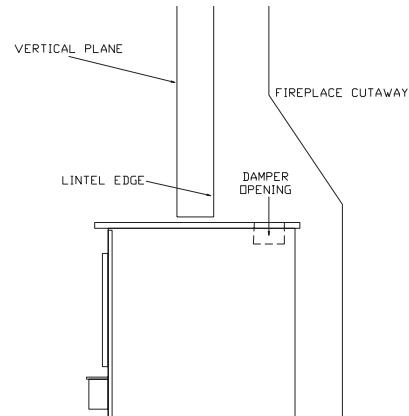

FIGURE 8 POSITIONING
When positioning heater, following conditions **MUST** be met! (See Figure 8).
1. The front of damper opening must be positioned **BEHIND** rear edge of lintel to ensure proper draft. (See Figure 8).